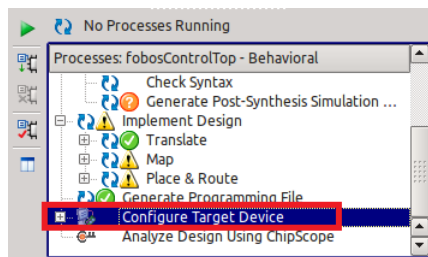

Figure 4.5:
- Program the control board using Xilinx Impact. In the Processes window, click Configure Target Device (See Fig 4.5).